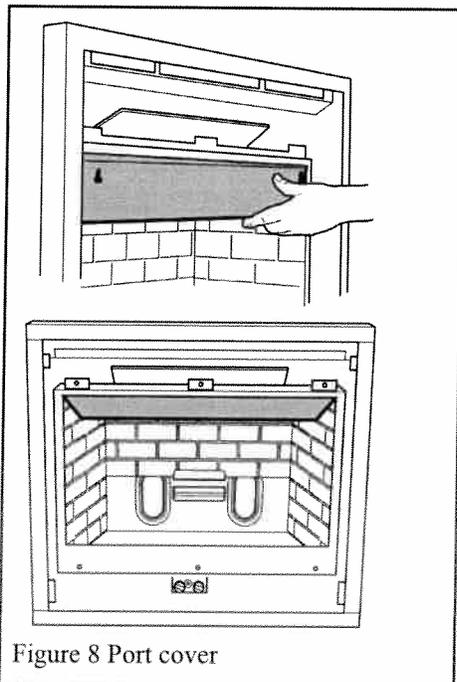

Figure 8 Port cover
- Detach the port cover from the firebox and remove ceramic side bricks (fig. 8)